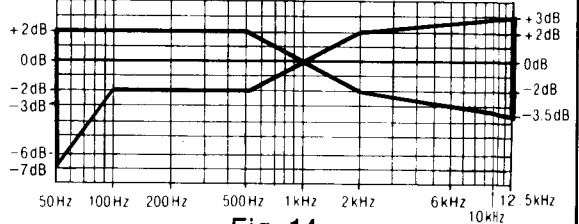
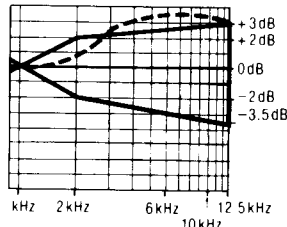
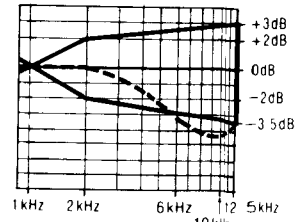

Fig. 14
Fig. 15
Fig. 16
6. Playback the signals recorded in step 5, and check if the frequency response curve is within the limits shown in the overall frequency response chart for normal tapes (fig. 14).
When the curve exceeds the overall specified frequency response chart (fig. 14) as shown in fig. 15.
- 2) Repeat steps 5 and 6 for confirmation (Proceed to steps 7, 8 and 9 if the curve is now within the charted specifications as shown fig. 14.)
When the curve falls below the overall specified frequency response chart (fig. 14) as shown in fig. 16.
- 3) If the curve still falls below the charted specifications (fig. 14), reduce bias current further and repeat steps 5 and 6.